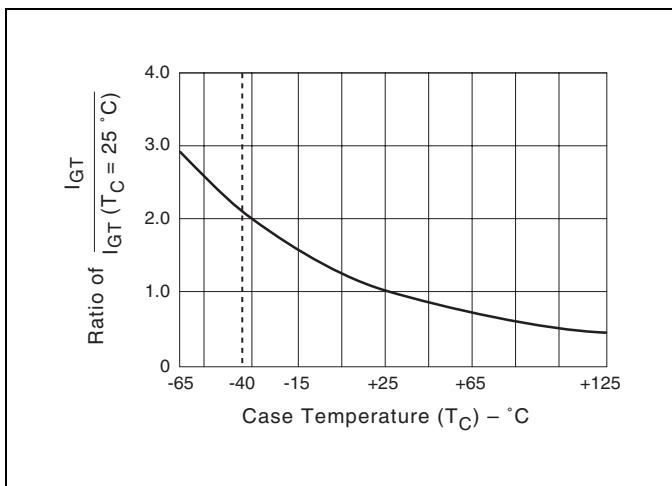

Figure E4.8 Normalized DC Gate Trigger Current for all Quadrants versus Case Temperature
- See Figure E4.8 for I_G versus T_C.